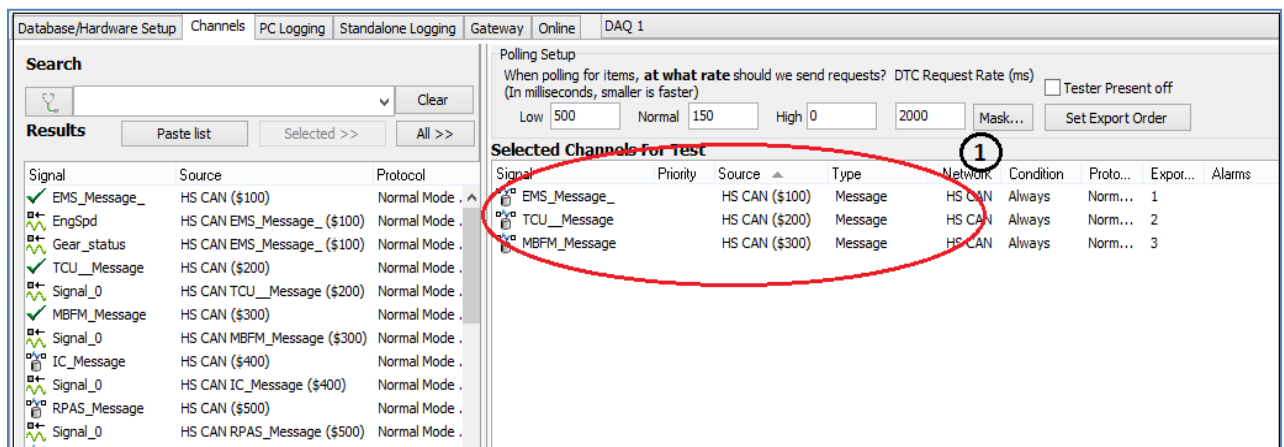

Figure 15: Selected messages.
- It will display selected messages on 'Selected channels for test' block (Figure 15 (1))